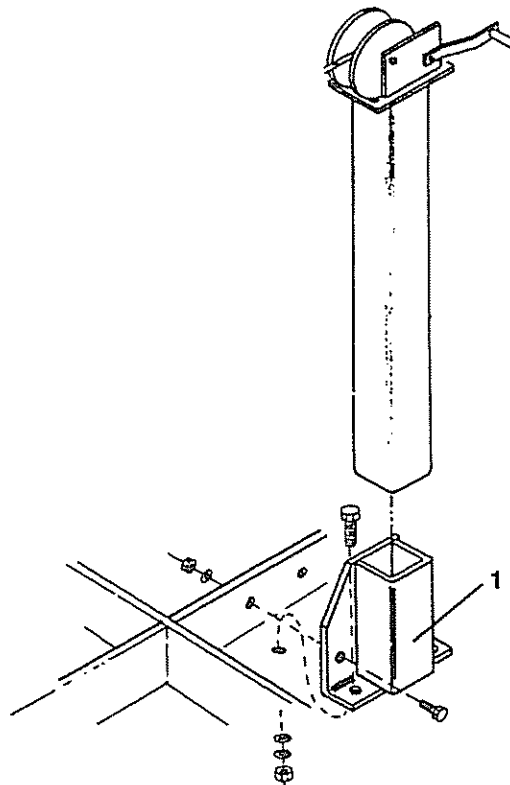

FIGURE 6. Winch Bracket Attachment
Install Mounting Bracket (1) onto left rear side of Center Section. Install 5/8 x 1-1/2 bolts, locknuts through holes in frame to retain bracket. Figure 6.